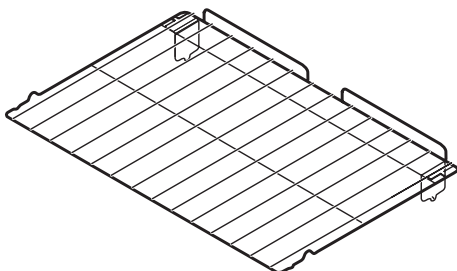

Figure 4
5. While holding the connector arm in place, twist the connector arm so the ends of the connector arm point upwards (See Figures 4 & 5). The connector arm should now be locked into position.